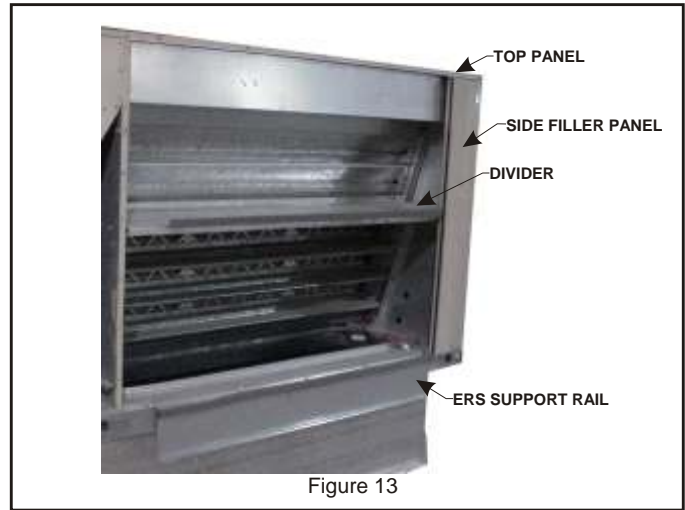

Figure 13
6. Install the side filler panel that is closest to the filter access panel of the unit. Remove the 1st, 3rd, 5th screws from the bottom in the corner post along the return air opening. Set the side filler panel so the screws removed can be reinstalled to same holes. **See Figure 13.**